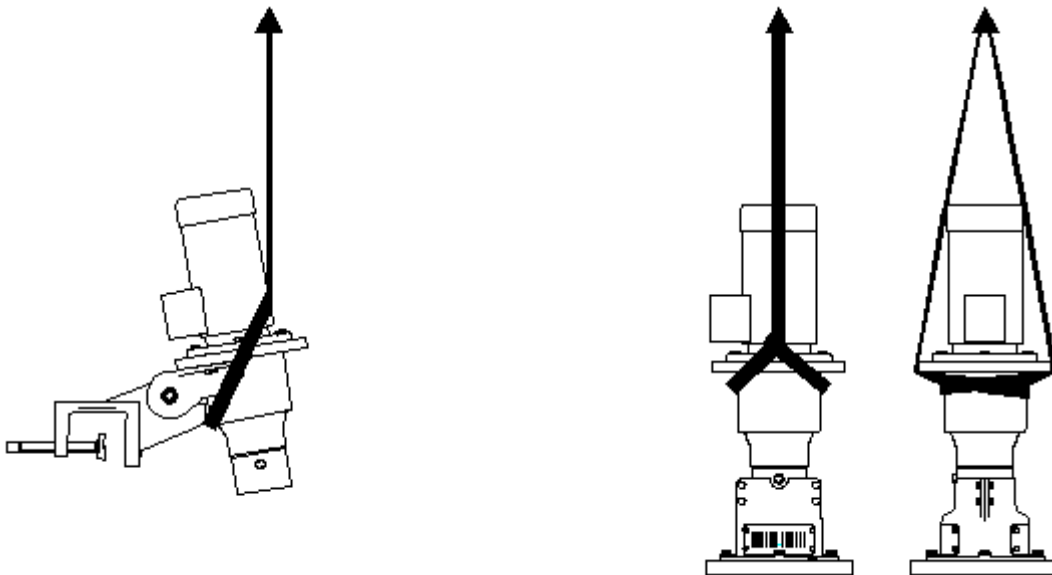

FIGURE 1
- 1.4 Lift the mixer from its crate using one of the follow lifting methods, dependant on mixer mounting style. The "P" units, which are clamp mounted to the side of the tank, are lifted as shown with a single sling, choker method. The "Q", "L", and "S" fixed mounted units should be lifted in a similar fashion using two slings directly across from each other to vertically lift the mixer. Refer to Figure 1.